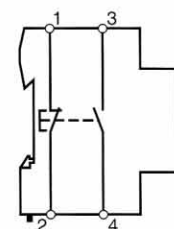

Fig. 3
- closing contact connected between 3 and 4 (on). see fig. 3.